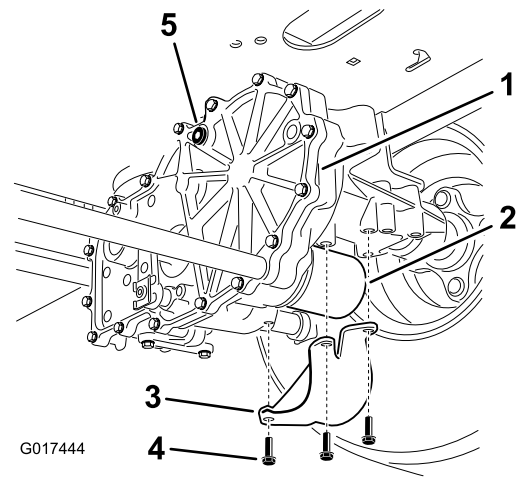

Figure 98
2. Locate the filter and guards on each transaxle-drive system (Figure 98).
3. Remove the 3 screws securing the filter guard and guard (Figure 98).